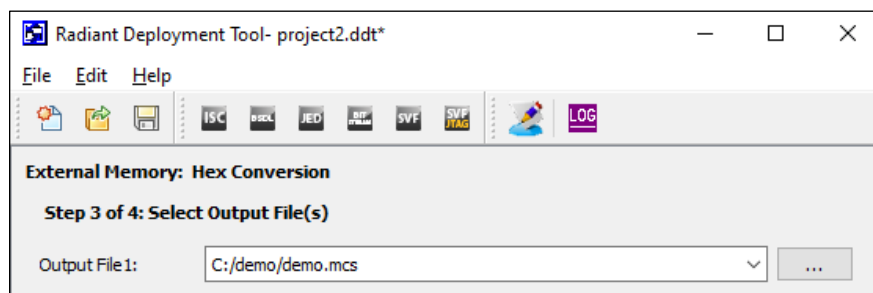

Figure 6.11. Output File Selection
- Specify the Output File name and click **Next** to proceed. See Figure 6.11.